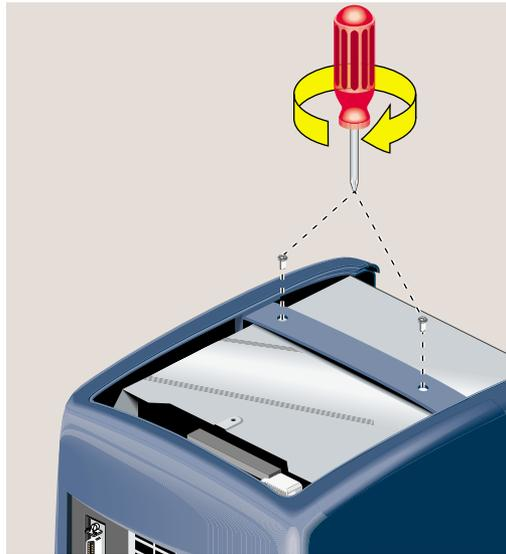

Figure 5-57 Securing the Outer Cover
16. Insert and tighten the two screws that secure the outer cover (Figure 5-57).